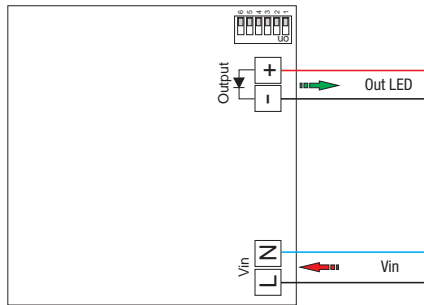

Fig. 2 - RN9160
**A - Funzione 0÷10Vdc (S10)** - DIM34... (R) - Fig. 2 - Tramite segnale di controllo 0÷10Vdc (RN9160)
**A - 0÷10Vdc (S10) function** - DIM34... (R) - Fig. 2 - By means of control signal 0÷10Vdc (RN9160)